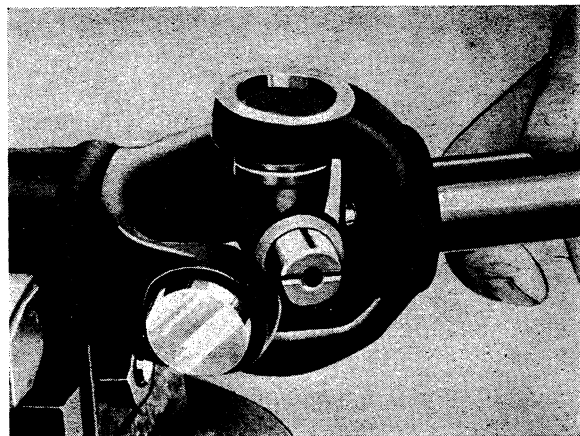

Fig. 4-122. Removing spider, II
5. Drive out one of the needle bearings with a thin metal punch. Remove the spider, see Fig. 4-122. Drive out the other needle bearing.